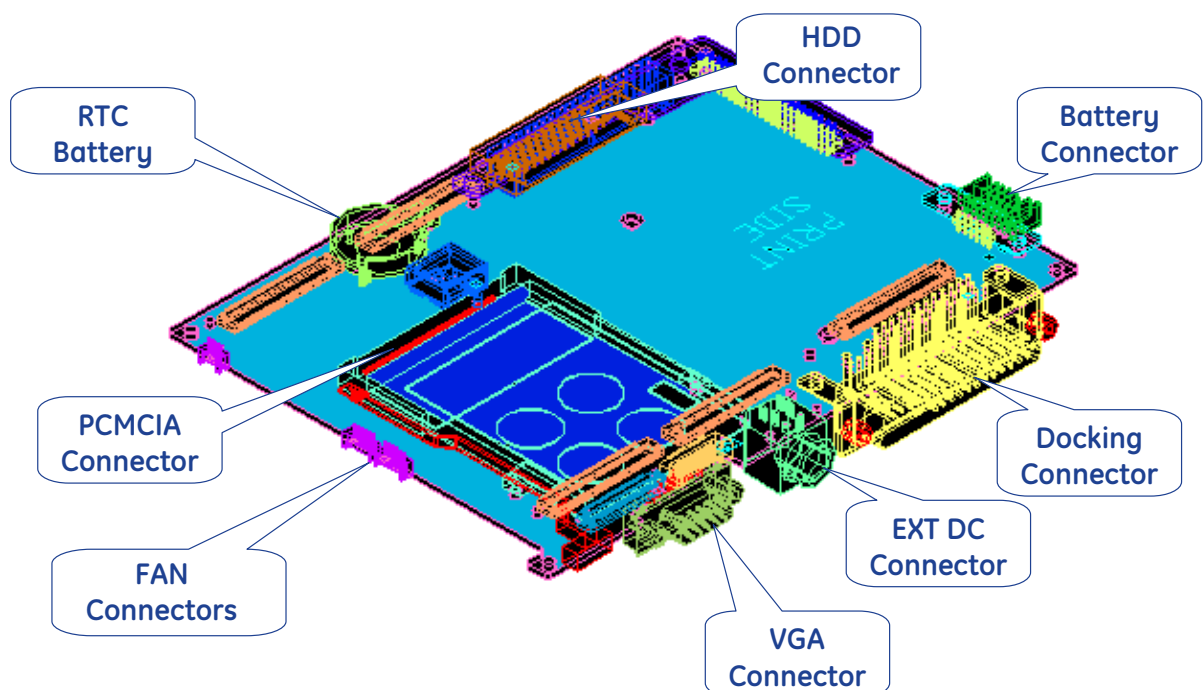

Figure 5-6 ETX Base Board (bottom) and Connectors
*NOTE: Additional Coax Cable need to be used and connected if system is equipped with GPP5/GPP6 and RBI4 (See connection on GPP and RBI (Figure 5-6, above). Not using the cable shows slight PW-mode disturbances. The Coax Cable prevents it.*
A view of the ETX Base Board showing the location of the various connectors is provided in Figure 5-6 on page 5-22.